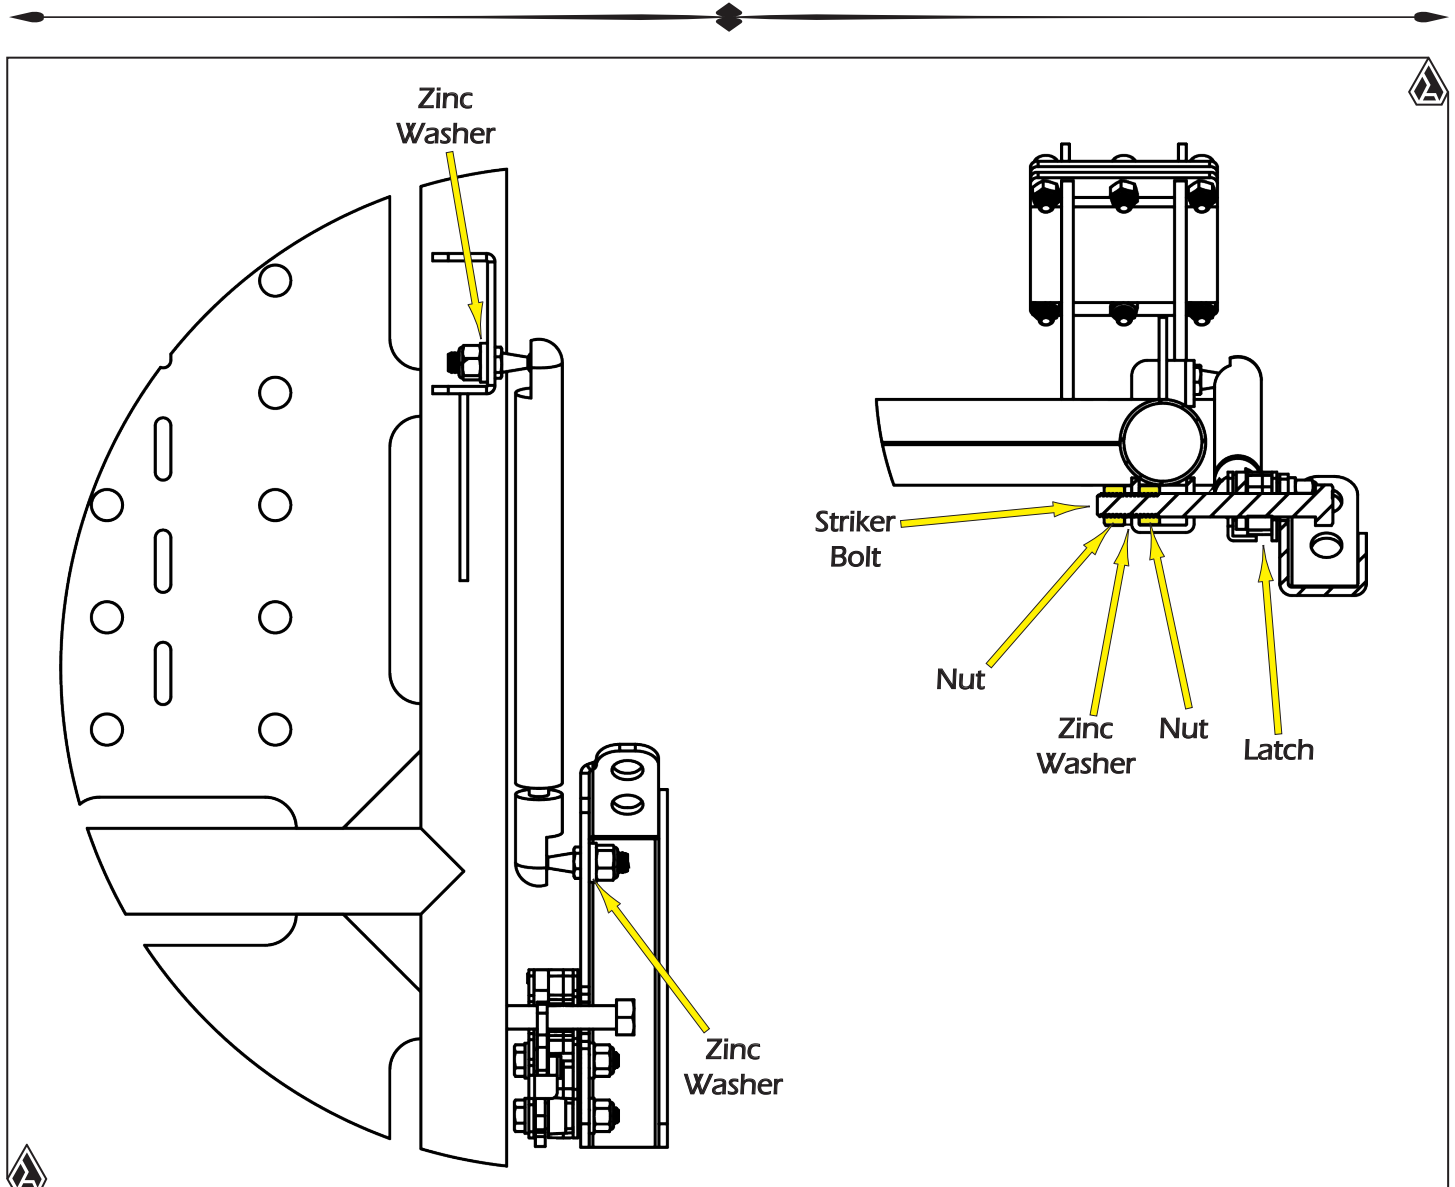

FIG.2
2. Assemble the striker bracket and latch as pictured in (Fig. 2). The nylon lock nuts should be installed facing out. This step requires a 4mm hex key and 11mm wrench or socket. Note: Do not install the EZ-lift ball socket studs in this step.
7. Install the EZ lift gas shock ball socket studs (Fig. 2) on the striker bracket and rack. Mount position can be adjusted forward or backward on the rack for desired height. Thread locker can be used on this step.